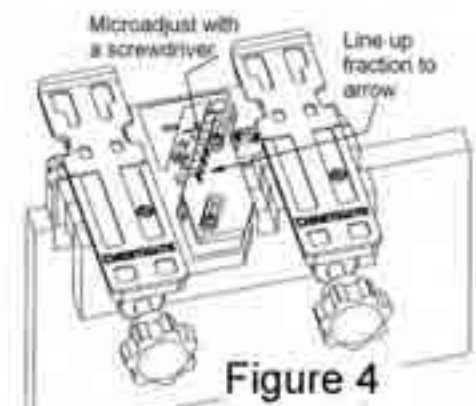

Figure 4
2-Securely assemble your accessory to the ChestMate jig. (Fig.4)
3-Clamp you're a scrap workpiece into a vice. Secure your ChestMate to your work piece with the indexing key up against the edge of the work piece (Fig 3). Include a front back-up piece of stock. Fig 4)
7-Remove the jig and observe the widths of your fingers and slots. If the slots are too wide, locate the adjustable guide away from you. If they are too narrow, move it towards you. Repeat until the width of each appear to be the same. (Fig 4)
- 10-Correctly set up your second board noting your "front 2" mark relative to the stop. (Figure 4)